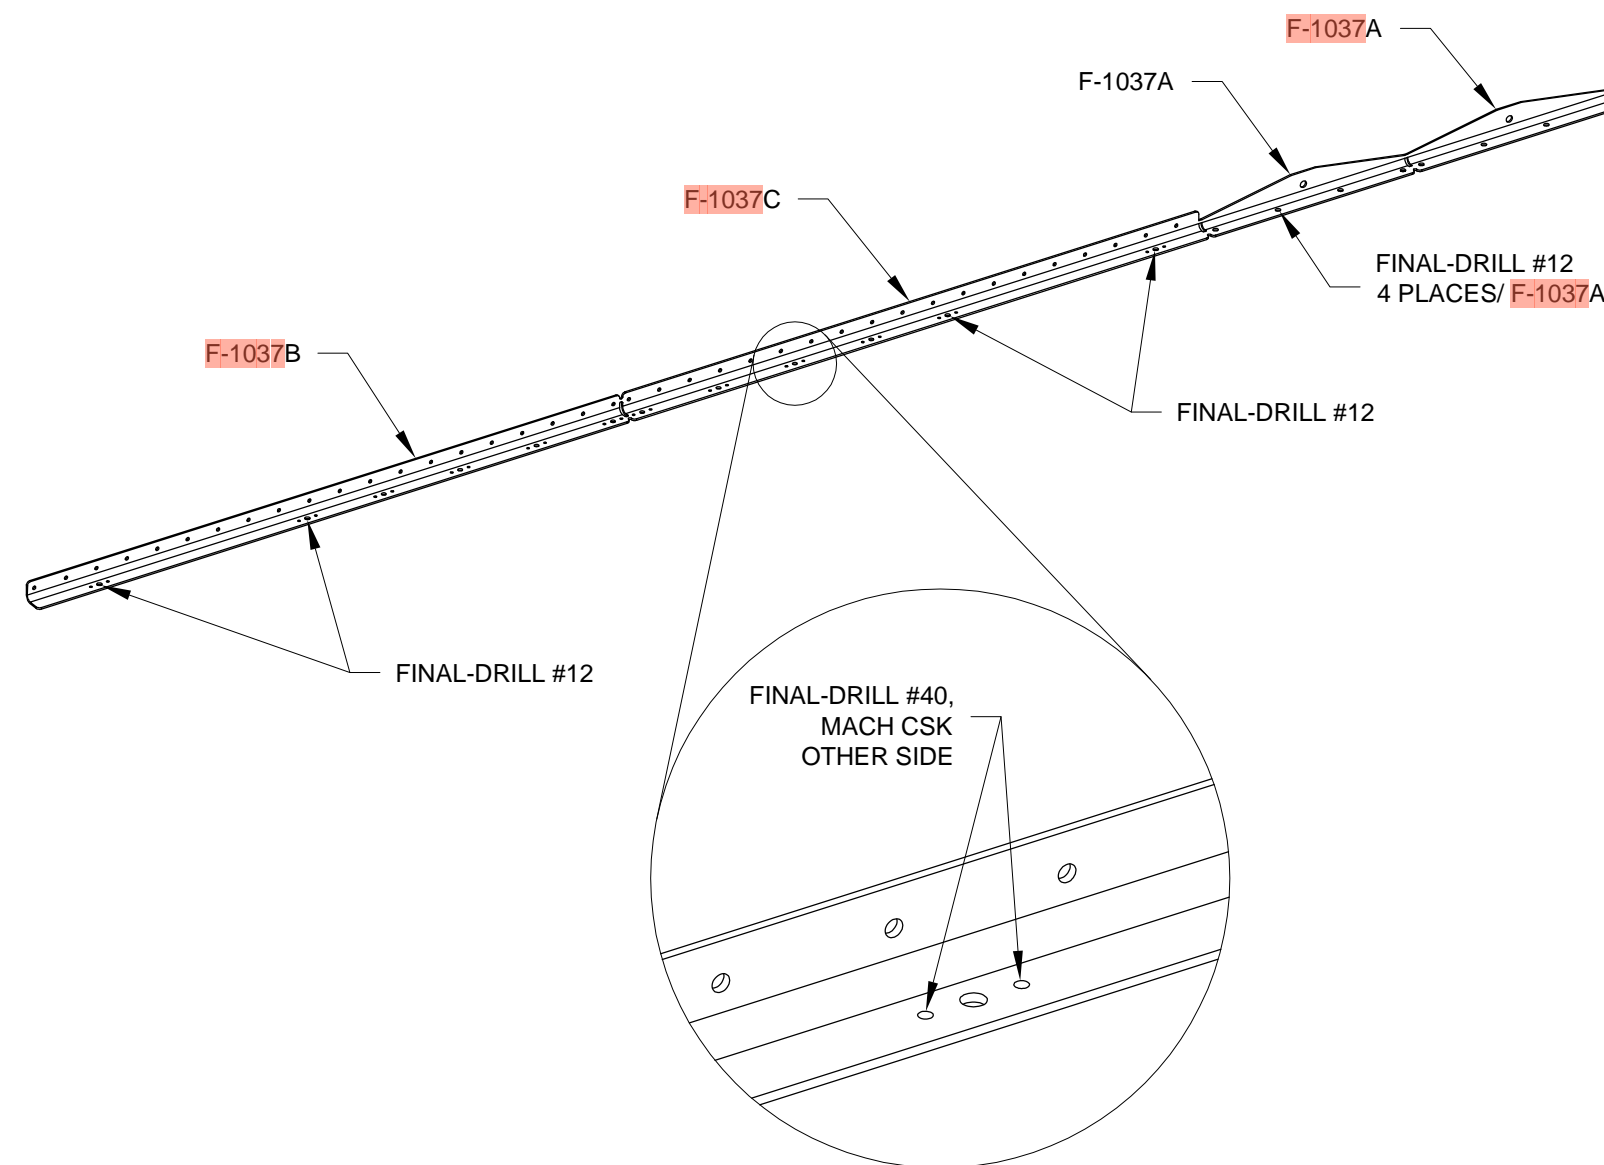

FIGURE 2: F-1037 BELLCRANK RIB ANGLES
Step 4: Final-Drill the 3/32" nutplate attachment rivet holes in both the F-1037B & C Bellcrank Rib Angles using a #40 drill. Machine countersink these holes flush for 3/32" rivets on the side indicated in the blowup of Figure 2.